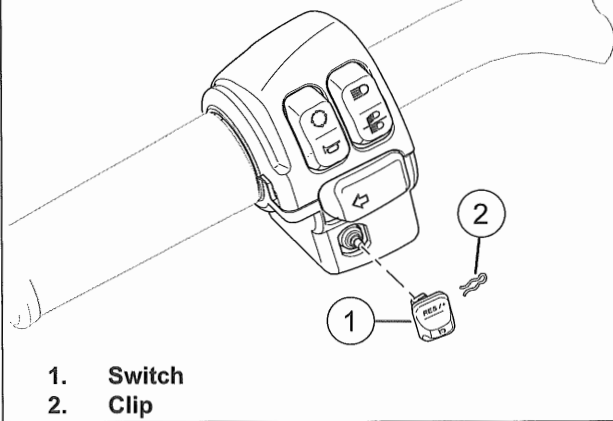

Figure 7-18. Cruise Switch
4. **Cruise Control Models:** See Figure 7-18. Remove clip (2) and switch (1).
7. **Cruise Control Models:** See Figure 7-18. Install switch (1) and clip (2).